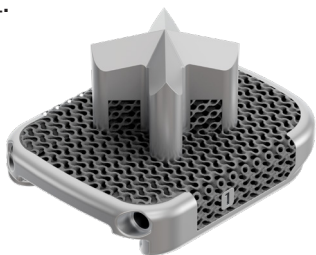

Fig. 31
3.1 Place the Tibial Implant first (Fig. 31). Apply cement to the superior flat surface of the implant.